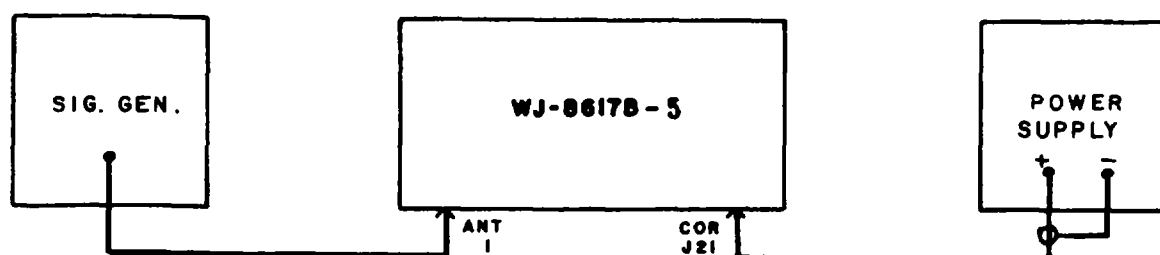

Figure 4-5. COR Circuit Test, Equipment Connections
1. Connect the test equipment as illustrated in **Figure 4-5**.